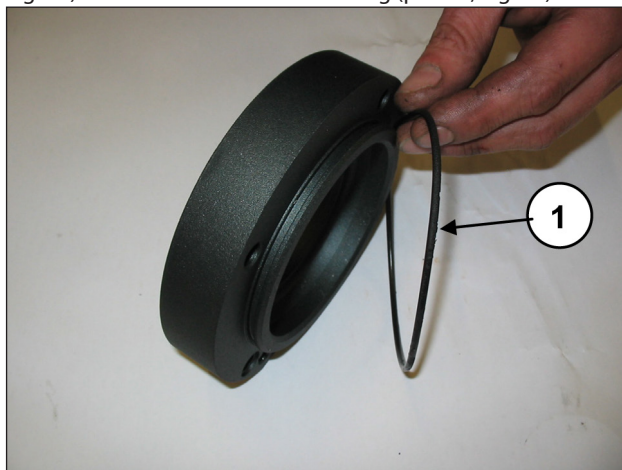
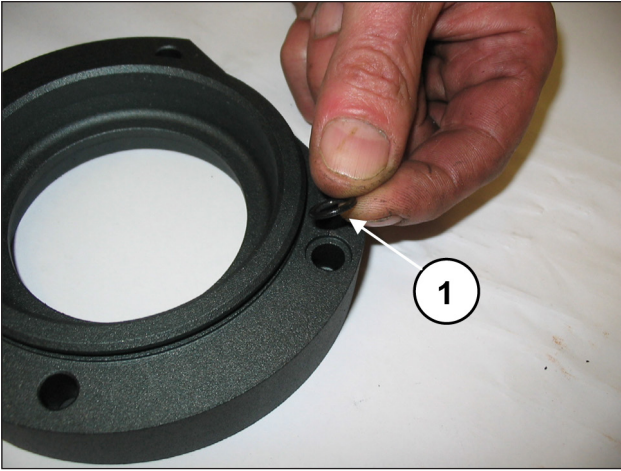

Fig. 65
Fig. 66
Apply to the PTO bearing covers: the external O-ring (pos. ①, Fig. 65) and the lubrication hole O-ring (pos. ①, Fig. 66).